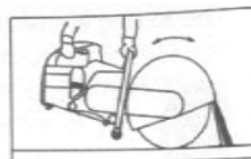

Fig 2
4. Inspecting the portable cutting machine disc before use: I. Make sure there are no loose objects on the device or near it. II. Except for carburetor adjustment screws, all other bolts, nuts, screws and the fuel tank cap must be tightened properly. Make sure all rubber oil ducts are properly tightened and that no losses occur. III. Make sure the disc rotates evenly, that the starter cord may be pulled and directed towards the rear without tangling. IV. Make sure the accelerator lever, the accelerator full stop button, the air valve handle, the decompression valve and the emergency stop button are in proper working order. V. Make sure the disc guard features no visible damage. Adjust the guard as necessary, so that the sparks generated during cutting are directed away from the operator (ref. Fig. 2).